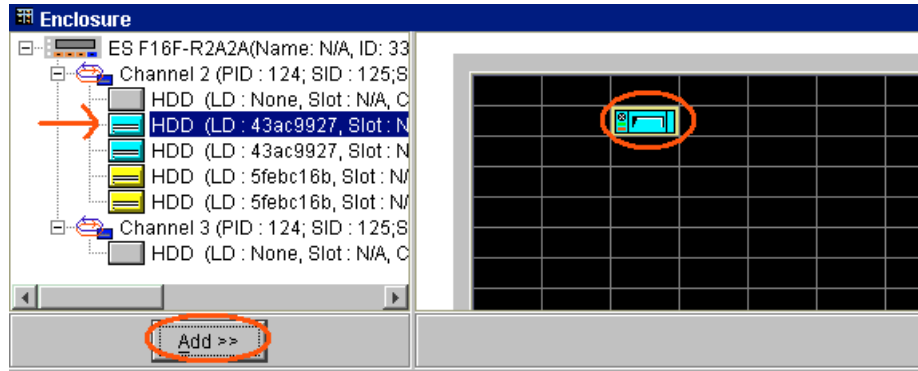

Figure 10-10: Select a drive
Step 5. Next, as shown in *Figure 10-10*, select a drive icon from the navigation panel, then click the **Add** button. The drive icon should appear in the previously selected space on the right hand side.